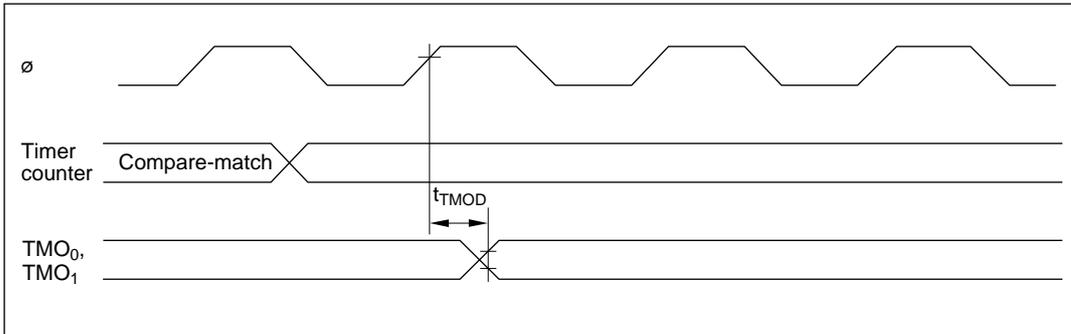

Figure 20-12 8-Bit Timer Output Timing
20.3.4 8-Bit Timer Timing	Figures 20-12 to 20-14